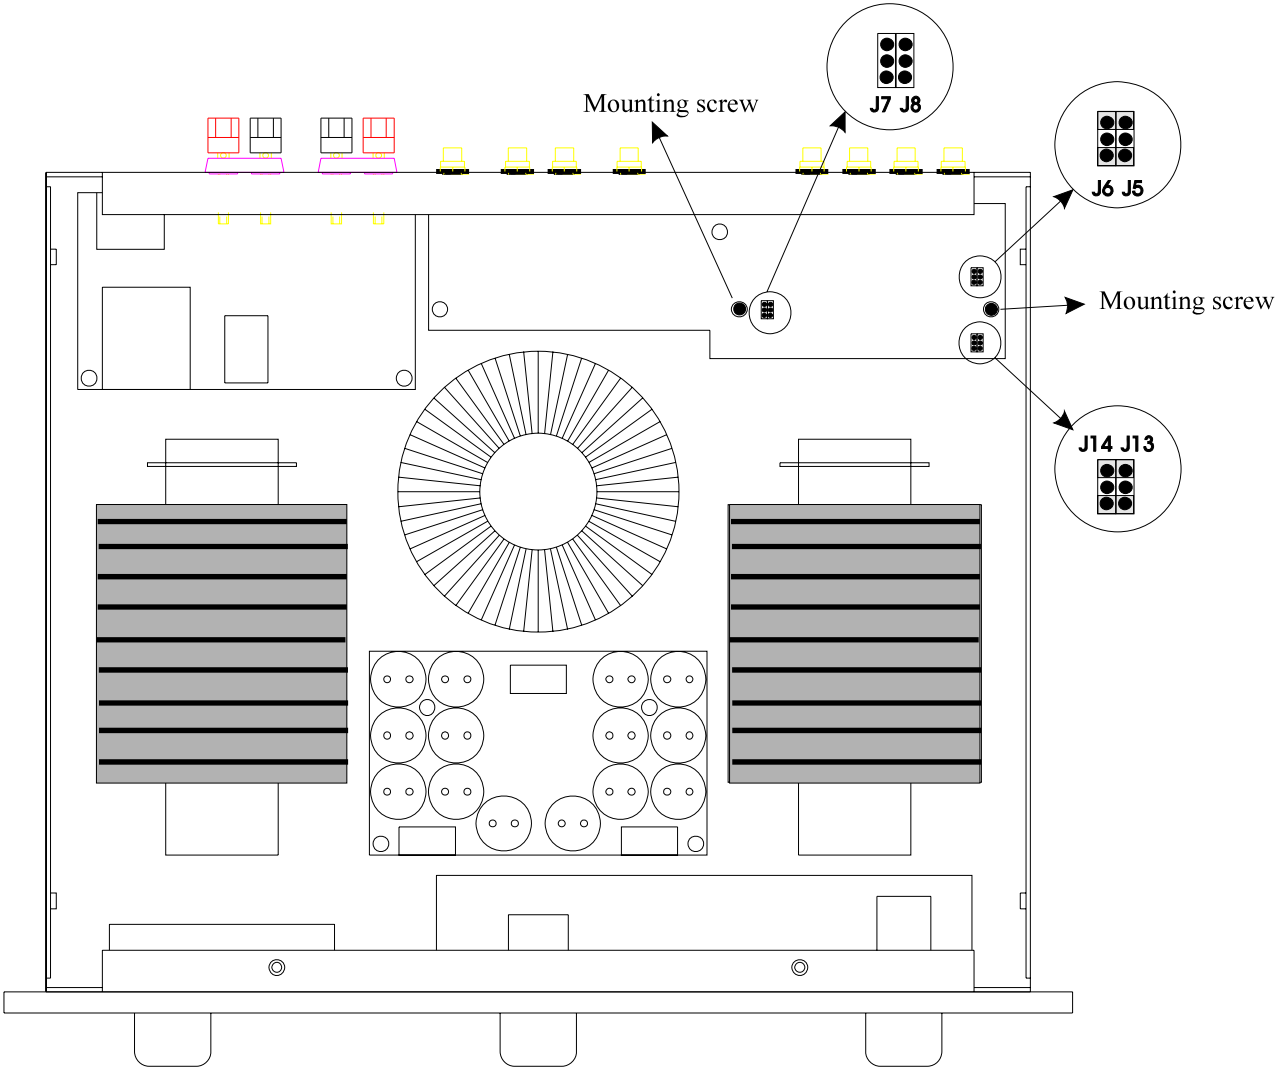

Fig 6: Phono jumper locations
- 3) Locate and replace the two mounting screws (see fig.6, page 18) with the supplied stand-offs.
- 4) Remove jumpers J5, J6 and J13, J14 (see fig.6, page 18). **Check if the extension sockets are in place on the reverse side of the phono board.**
- 3) Remove the screws securing the phono board, remove the phono board and the stand offs, replace the screws where the stand offs were removed (see fig.6, page 18) to secure the main board.
- 4) Replace jumpers J5, J6 and J13, J14 (see fig.6, page 18) on the main board. Jumpers from the phono board can be used for that purpose.